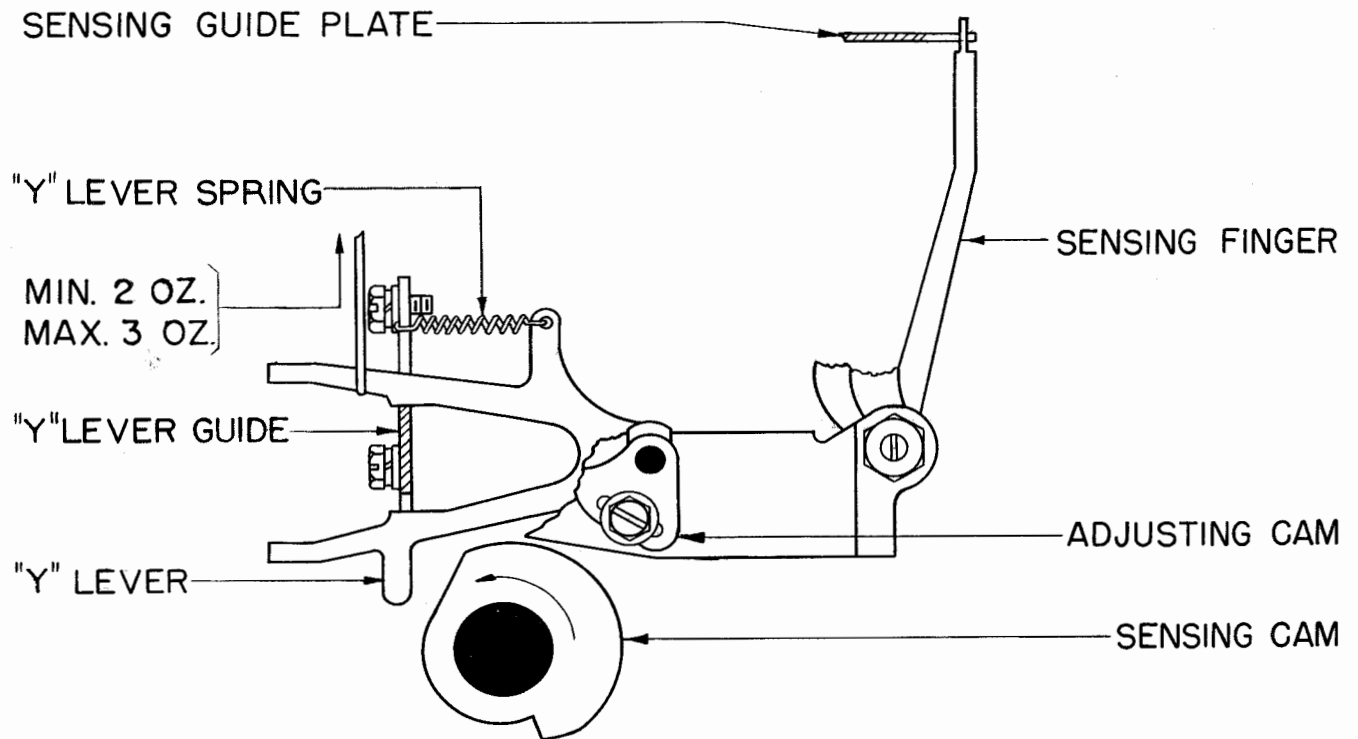

Figure 54
(1) With the camfollower tips of the Y-levers opposite the low part of their associated cams and the Y-lever springs unhooked, the Y-levers and the sensing pins shall move freely in their guides. Rehook the Y-lever springs.
(2) With the camfollower tips of the Y-levers opposite the low part of their associated cams, the lower edge of the upper arm of the Y-lever shall rest firmly in the bottom of the associated guide slot in the guide plate. See Figure 54.
(3) When the clearance between the top edge of the lower arm of the Y-levers and the top edge of the associated slot is reduced to zero by hand, the sensing pins shall not become disengaged from the sensing-pin guide-plate.
2.111 Y-Lever Spring: With the upper arm of the Y-lever resting firmly in the bottom of its slot, it shall require a pull as indicated in Figure 54 to start the Y-lever moving upward.